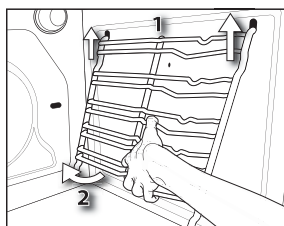

Fig. 3
2. To remove the grilles, lift them up (1) and turn them (2) as shown in fig. 3.